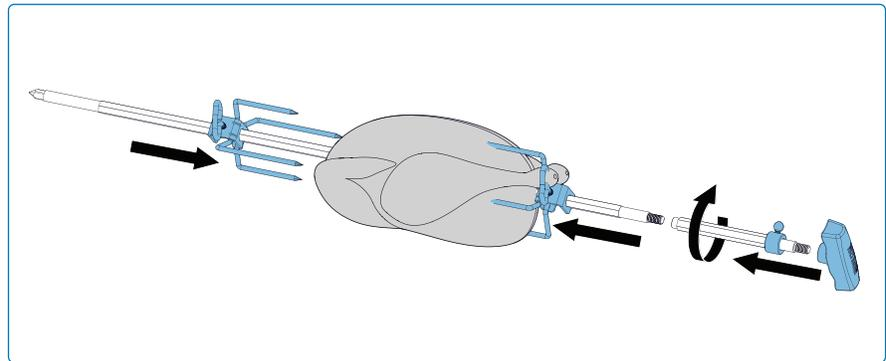

Fig. 4
3. Connect the spit rod extension. Slide the first rotisserie fork just past the middle of the spit rod and tighten into place. Thread the meat onto the spit rod and push the meat into the fork. Slide the second rotisserie fork on the opposite end of the spit rod and push the fork into the meat until secure. Tighten the fork into place (**Fig. 4**).